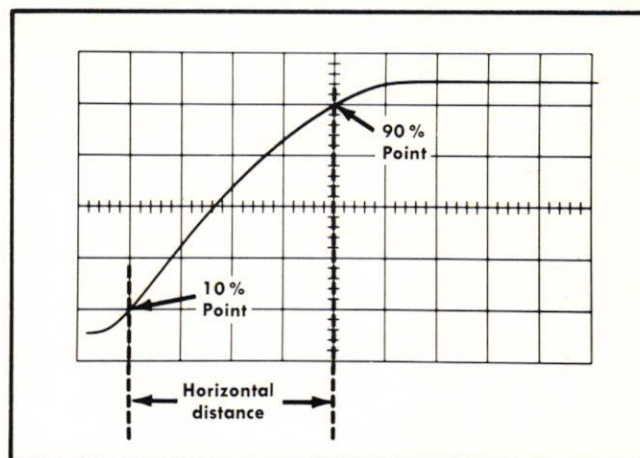

Fig. 2-16. Measuring risetime.
7. Adjust the HORIZONTAL POSITION control to move the 10% point of the waveform to the second vertical line of the graticule. For example, with a five division display as shown in Fig. 2-16, the 10% point is 0.5 division up from the start of the rising portion.
EXAMPLE: Assume that the horizontal distance between the 10% and 90% points is four divisions (see Fig. 2-16) and the TIME/DIV switch is set to .5  $\mu\text{SEC}$  with the MAG switch pulled out.